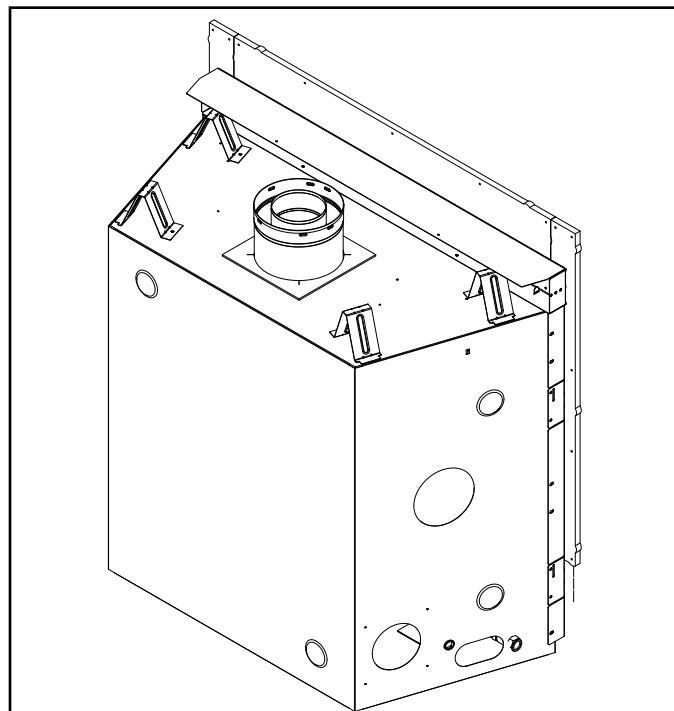

Figure 6.4 COSMO32-IFT - Shipping Support and Seal Cap Removed
2. Remove and discard shipping support, seal cap, and screws. See Figure 6.4.